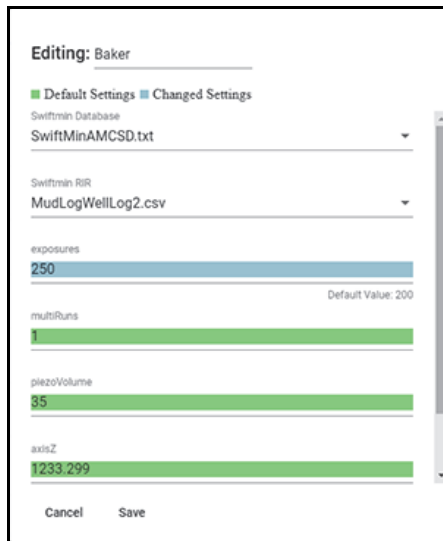

Figure 5-15 Editing dialog box
2. In the **Editing** dialog box, (see Figure 5-15 on page 80) select the default database (see “To change the default database” on page 77).